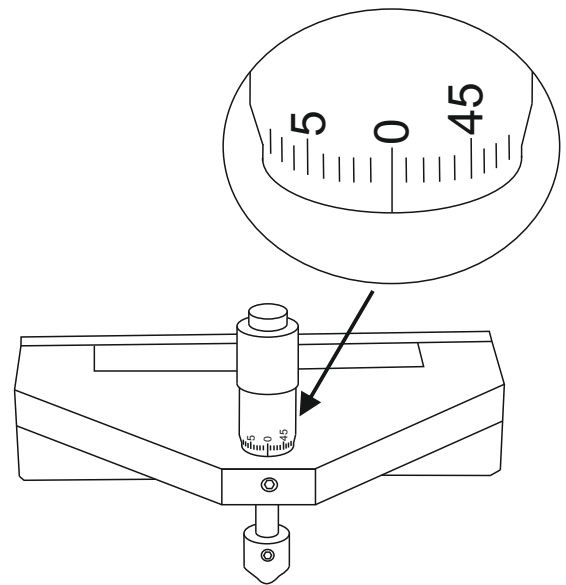

Figure 1
- 2 Adjust the micrometer to 0 (Figure 1).